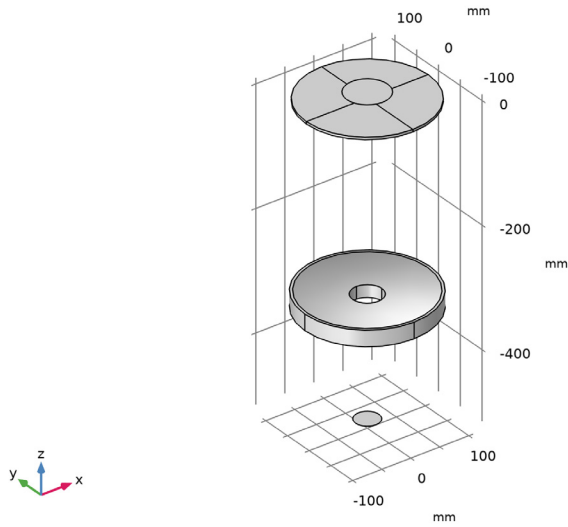

Figure 2: The Schmidt-Cassegrain telescope geometry sequence.
The resulting Schmidt–Cassegrain telescope geometry sequence is shown in Figure 2. Detailed instructions for creating the geometry can be found in Appendix — Geometry Instructions.
- 8 Click the  **Orthographic Projection** button in the **Graphics** toolbar. Compare the resulting geometry to Figure 2.